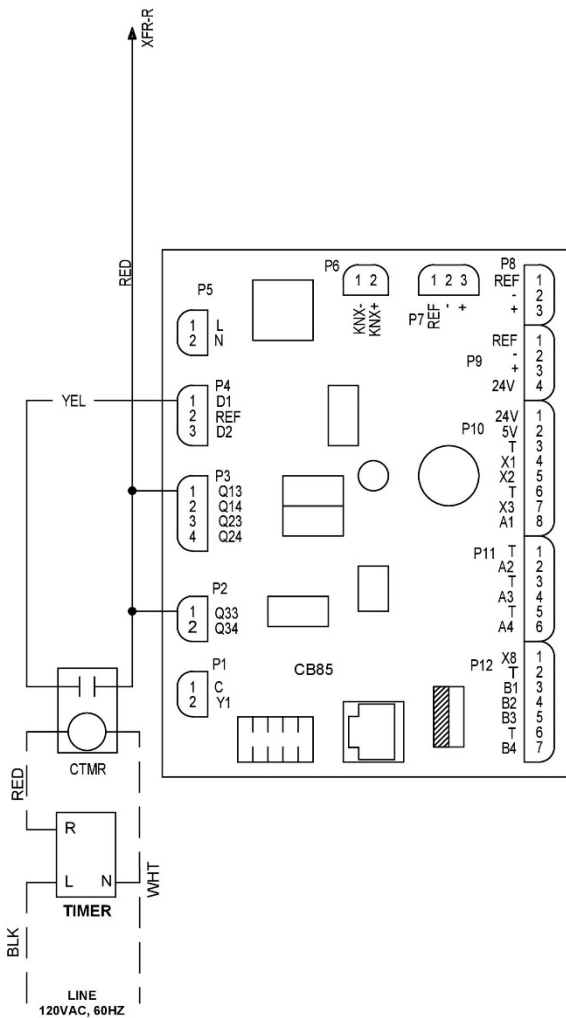

FIGURE 28 - Version 2 (120V Digital Timer Connection)
6. **FIGURE 28 - Version 2 (120V Digital Timer Connection)**).